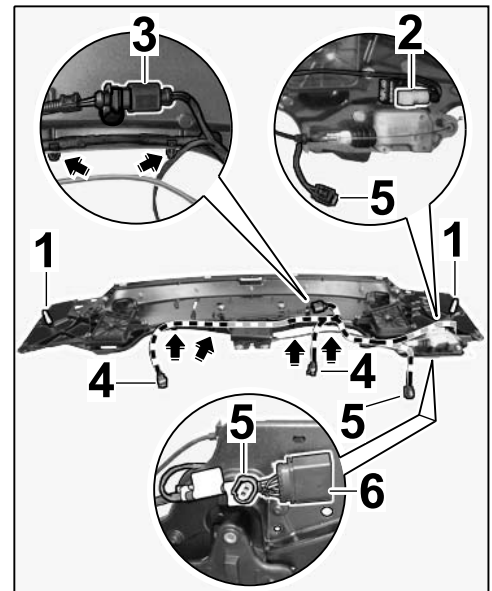

Figure 10
- 3.1.9 Convert two centering journals (⇒ *Figure 10 -1-*) on mounting bracket.
3.2.2 Position electric wire harness on the mounting bracket and secure with four retaining clips (⇒ Figure 10 -arrows-).
Connect plug connections and secure on the mounting bracket (⇒ Figure 10).